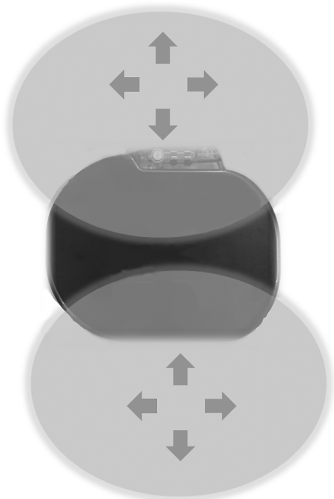

Figure 10. Zone within Which Magnet Placement is Most Likely to Suspend Therapy
2. LISTEN for beeping tones (use a stethoscope if necessary). Therapy is not suspended until beeping tones are heard. If no beeping is heard, try other positions within the target zones illustrated in grey shaded areas of figure until beeping tones are heard (Figure 10 Zone within Which Magnet Placement is Most Likely to Suspend Therapy on page 34). Sweep the magnet vertically and horizontally across the target zone as indicated by the arrows. Maintain the magnet in each tested position for one second (it takes approximately one second for the pulse generator to respond to the magnet).